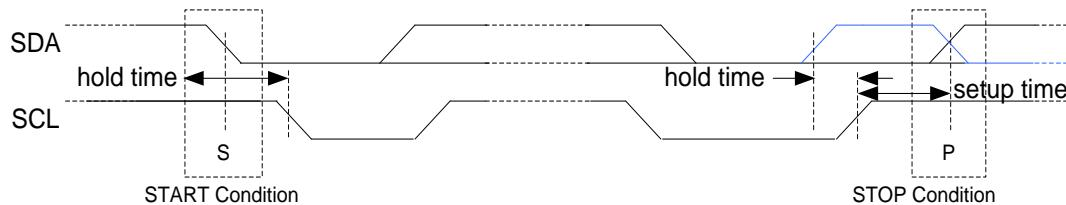

Figure 33. START and STOP (or repeated START, blue line) condition
An idle I2C bus state occurs when both SCL and SDA are not being driven by any master and are therefore in a logic HI state due to the pull up resistors. Every transaction begins with a START (S) signal and ends with a STOP (P) signal. A START condition is defined by a high to low transition on the SDA while SCL is high. A STOP condition is defined by a low to high transition on the SDA while SCL is high. START and STOP conditions are always generated by the master. This slave module also supports repeated START (Sr) condition which is same as START condition instead of STOP condition (the blue-color line shows repeated START in Figure 33).